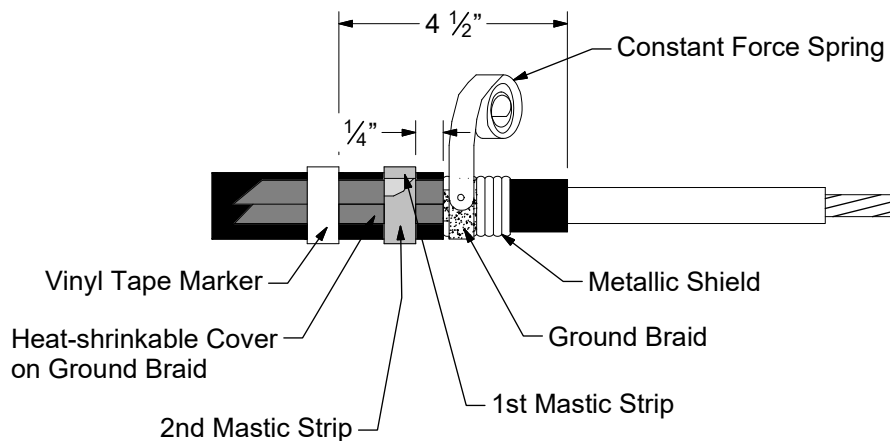

Figure 4A
4. Wrap the ground braid around the metallic shield and secure in place with the constant force spring. Tighten the spring after wrapping the final turn. Position the finish ground braid tail over the cable jacket. The finish tail of the ground braid does not have to be on top of the first tail. See Figure 4A.
5. Select the second mastic strip from the kit and remove the white release liners. Apply the second mastic strip over the previously applied mastic. If ground braids overlap on cable jacket be sure to apply mastic between the braids. Secure ground braids to cable jacket 4-1/2" from cable semi-con edge using vinyl tape. Apply tape directly over previously applied marker tape. See Figure 4A.